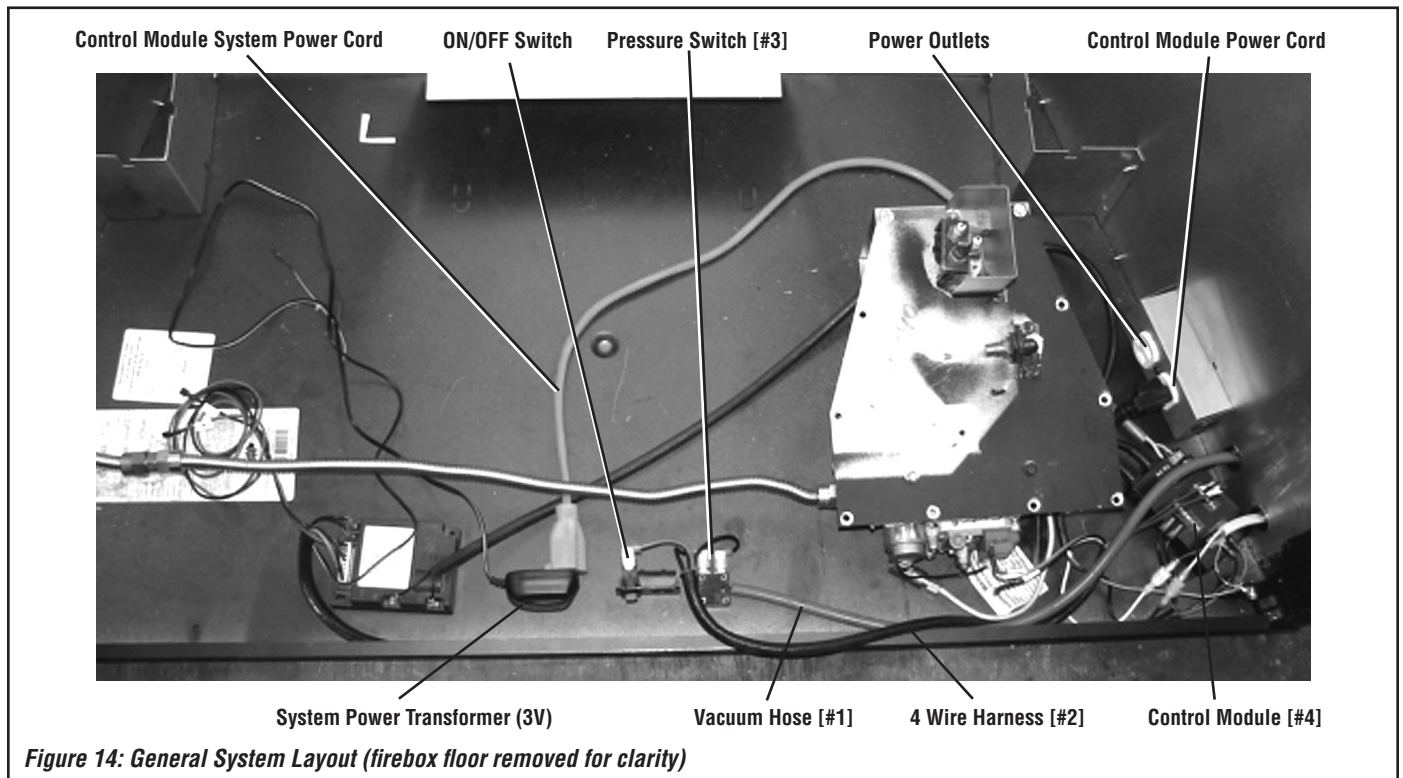

Figure 14: General System Layout (firebox floor removed for clarity)
Refer to the general system layout shown in Figure 14.
- 9A.4. Disconnect the system power transformer (3V) from the power outlet (**Figure 14**).
9A.6. Position the **pressure switch** [#3] on the fireplace cabinet bottom, and secure using provided **Velcro strips** [#4] (refer to **Figures 14** and **18**).
9A.11. Ensure all components are properly placed (see Figure 14). Ensure the ON/OFF switch is secure and the **pressure switch** is in place.